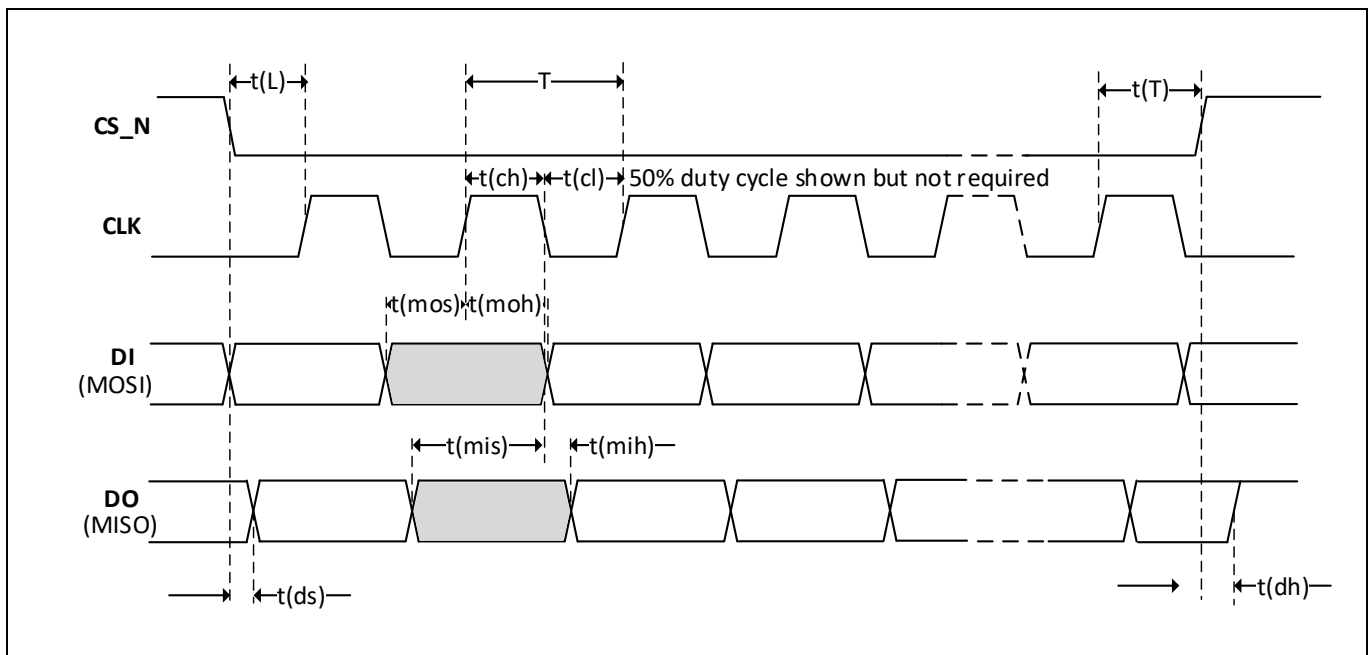

Figure 14 SPI interface timing diagram for SFCTL:MISO_HS_RD = 0_b
The timing diagram for normal SPI mode (SFCTL:MISO_HS_RD =0) is presented in Figure 14. A SPI transfer is started with a falling edge of chip select signal CS_N generated by the SPI master. At the same time, the SPI master shall drive the level of the data input signal DI (master output, slave input) according to the first bit. Also, with the falling edge of the chip select signal CS_N the SPI slave applies the level of the data output signal DO (master input, slave output) according to the first bit which shall be transferred to the SPI master, the level becomes stable after the period t(dS). The SPI master has to wait for the time t(L) before the clock signal CLK can be generated.